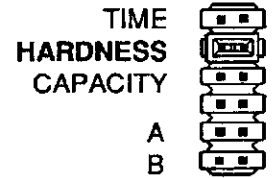

Figure 3
4. Pull the jumper off the top set of pins and place it on the set of pins next to the word "HARDNESS" (Figure 3). Depress the black TIME SET BUTTON until the correct hardness is displayed. The hardness range is from 1 to 99 grains per gallon.